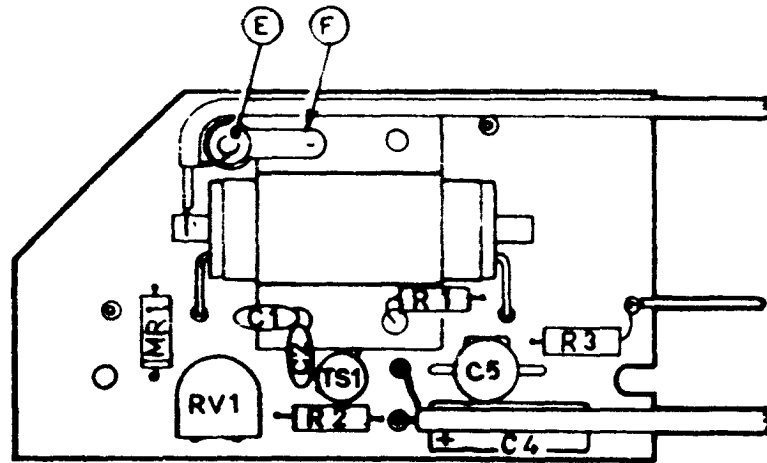

Figure 3-10 U14 Protection Unit Layout
- (1) Remove Protection Unit U14 from the honeycomb.
- (2) Remove 0.01 μ F ceramic disc capacitor C3 and replace with 1nF feedthrough capacitor (item E) and .202 solder lug (item F) as shown in figure 3-10. Retain C3 circuit designation.